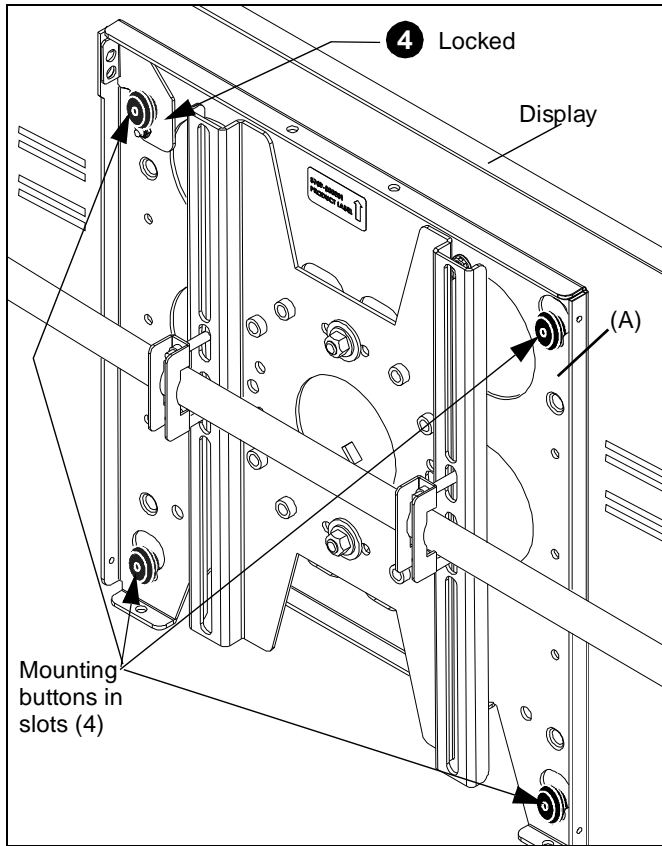

Figure 12
4. With the mounting buttons of the display fully engaged in the slots of the TPS (A), secure display to the TPS by raising the Q-Latch flag all the way up to the locked position. (See Figure 12)